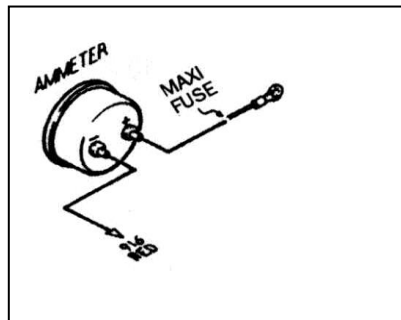

Figure 12-1 Ammeter & Maxi Fuse
12.0 Connecting an Ammeter and the Maxi Fuse. See Figure 12-1, & 12-2
- 12.2.3** Route wire #916 (from the Fuse Panel) and connect to the Ammeter NEGATIVE terminal. (**Figure 12-1**)